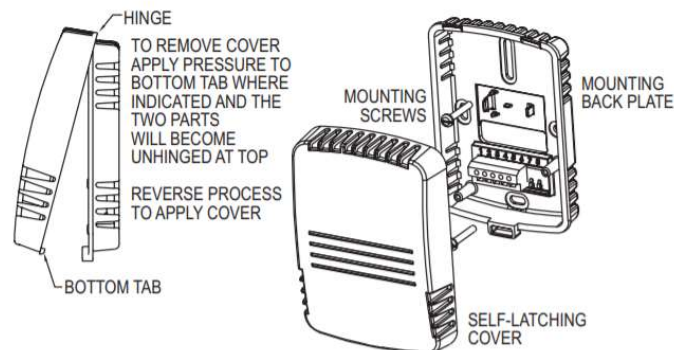

Figure 1
1. Push tab on bottom of cover and lift cover from back plate. (See Figure 1).